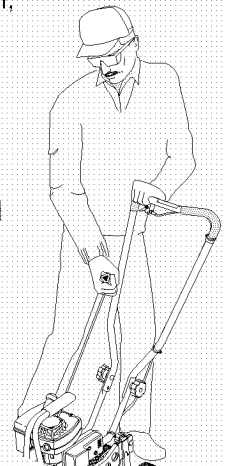

Figure 8
3. Grasp starter cord handle. See Figure 8.